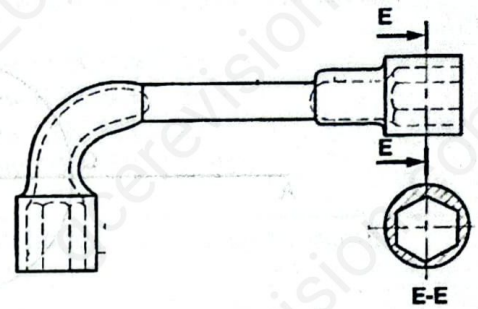

Figure 17
26. Specify the type of section shown in figure 17 below.